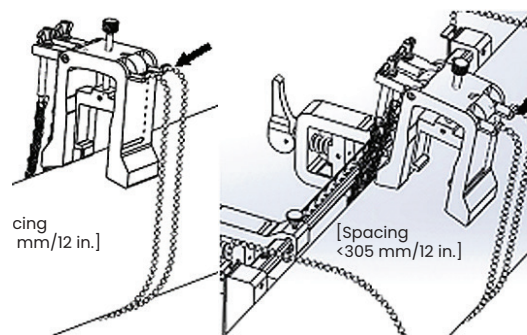

Figure 27: Yoke chains secured
3. Wrap the yoke chains around the pipe and secure them to the yoke bracket, as shown in *Figure 27* below.